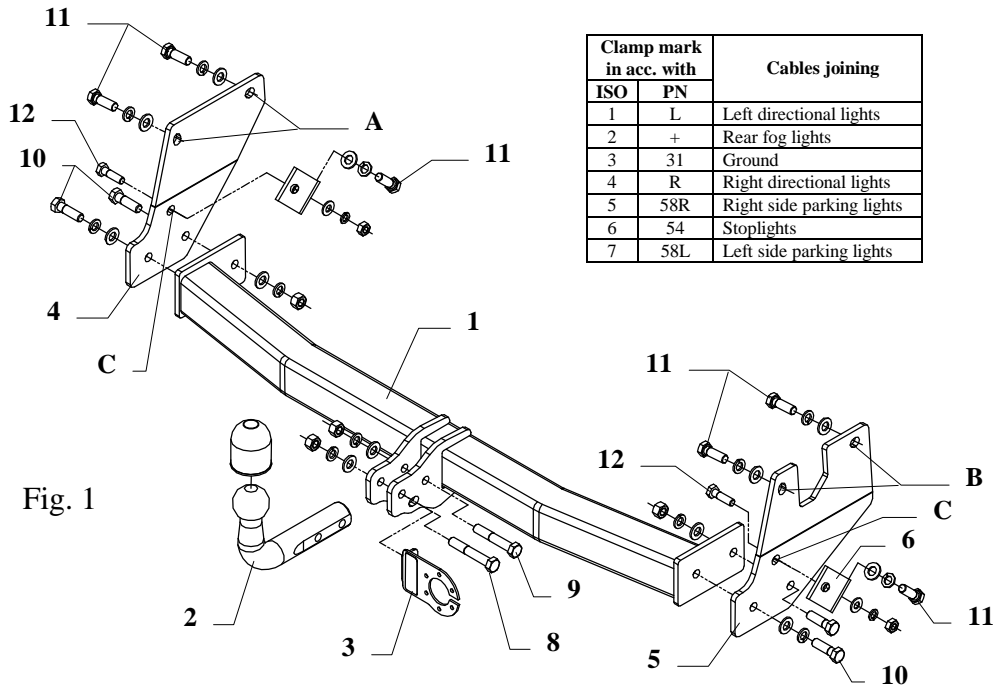
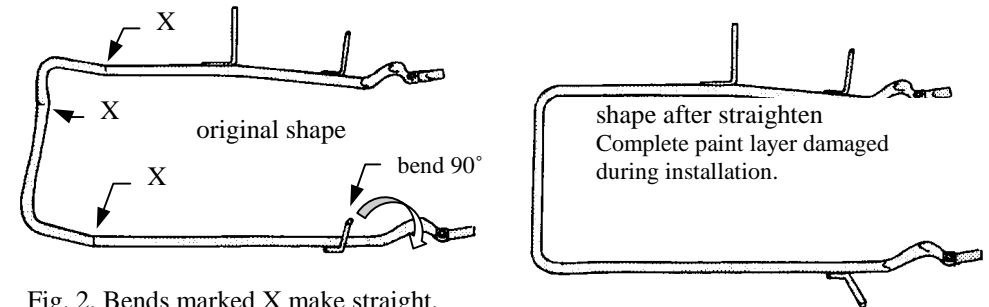
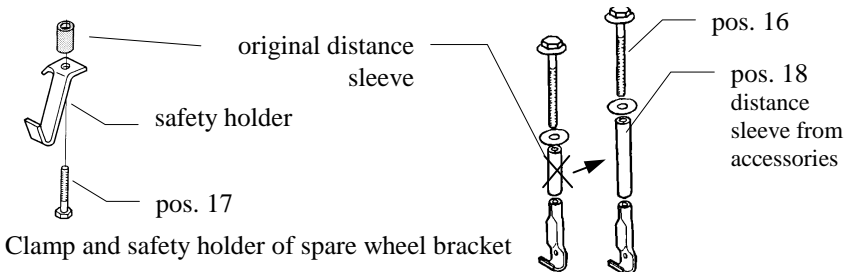

Fig. 1
Fig. 2. Bends marked X make straight.
Fig. 3. Clamp and safety holder of spare wheel bracket
2. Remove the spare wheel support bracket. Make the depressions straight. See figure 2.
3. Left side bracket (pos. 4) put on the outsider of the left chassis member and fix through holes pos. A by bolts M12x1.25x35mm (pos. 11). Right side bracket (pos. 5) put on inside of the right chassis member and fix through holes pos. B by bolts M12x1.25x35mm (pos. 11).
4. Fix handles (pos. 6) to chassis according to figure 1 using bolts M12x1.25x35mm (pos. 11) and next fix it to side brackets (pos. 4 and 5) through holes C using bolts M10x35mm (pos. 12).
5. Between mounted brackets (pos. 4 and 5) put main bar of towing hitch (pos. 1) and fix by bolts M12x 40mm (pos. 10).
6. In the spare wheel clamp replace original distance sleeve for sleeve from towing hitch accessories (pos. 14). To reinstall the clamp use bolt M12x140mm (pos. 7) from accessories. Reinstall (if fitted) the safety holder using original sleeve from clamp and bolt M8x50mm (pos. 13) from towing hitch accessories. See fig. 3
7. Fix tow-ball (pos. 2) together with socket plate (pos. 3) by bolts M12x75mm (pos. 8) and M12x70mm (pos. 9) from accessories.